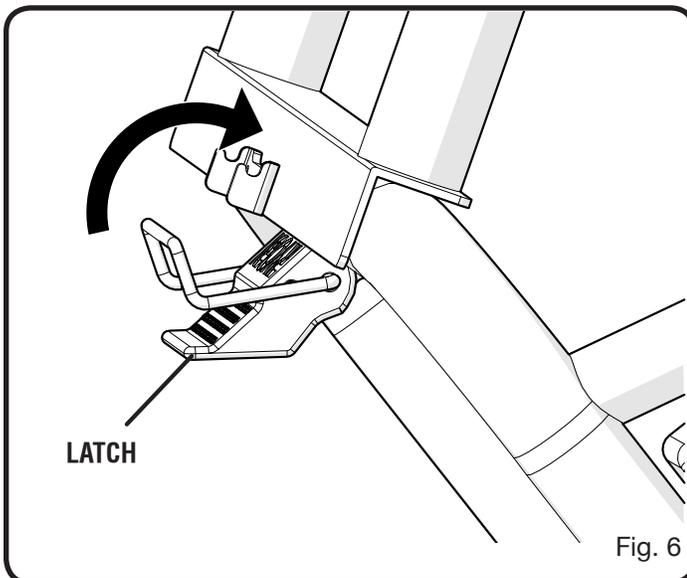

Fig. 6
See Figures 6 - 8.
- Fold out the stand. Use the latch to secure the free end of the support bracket to the frame of the saw. (See Figure 6.)